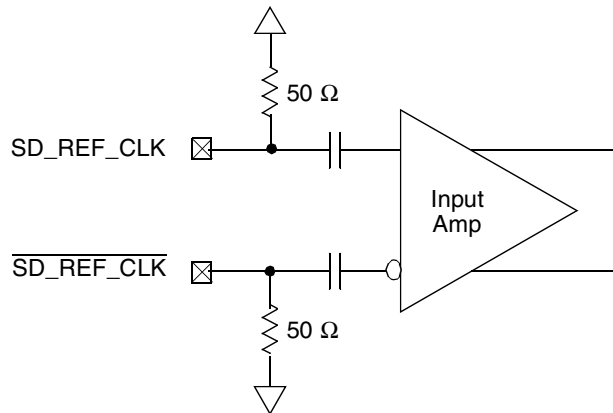

Figure 39. Receiver of SerDes Reference Clocks
Figure 39 shows a receiver reference diagram of the SerDes reference clocks.
- The `SD_REF_CLK` and `SD_REF_CLK` are internally AC-coupled differential inputs as shown in Figure 39. Each differential clock input (`SD_REF_CLK` or `SD_REF_CLK`) has a 50- Ω termination to `XCOREVSS` followed by on-chip AC-coupling.